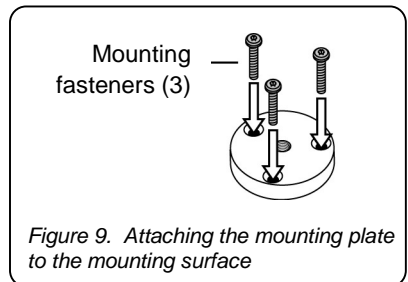

Figure 9. Attaching the mounting plate to the mounting surface
- 4) Attach the mounting plate to the mounting surface. See Figure 9.